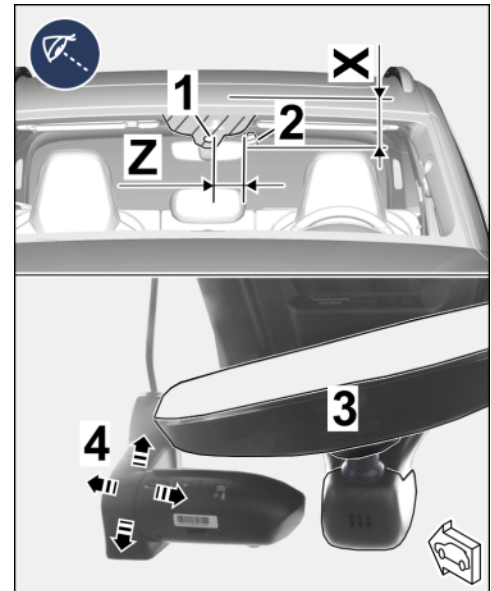

Figure 8
2.1.3 Copy dimensions X and Z on the windshield (⇒ *Figure 8-top*).
2.1.4 Position front camera with retainer plate in the vehicle at the marking on the windshield (⇒ *Figure 8 -Arrows-*).